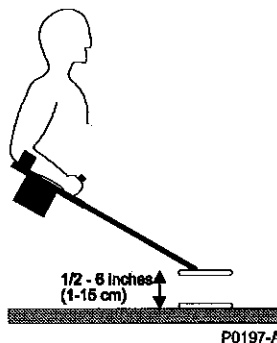

Figure 15 - Raising and Lowering the Search Coil
- i. Move the coil up and down near the ground surface. This allows the Automatic Ground Balance feature to set the balance. Keep 'pumping' the coil until there is no change in the audio signal accompanying the movement (see Figure 15).